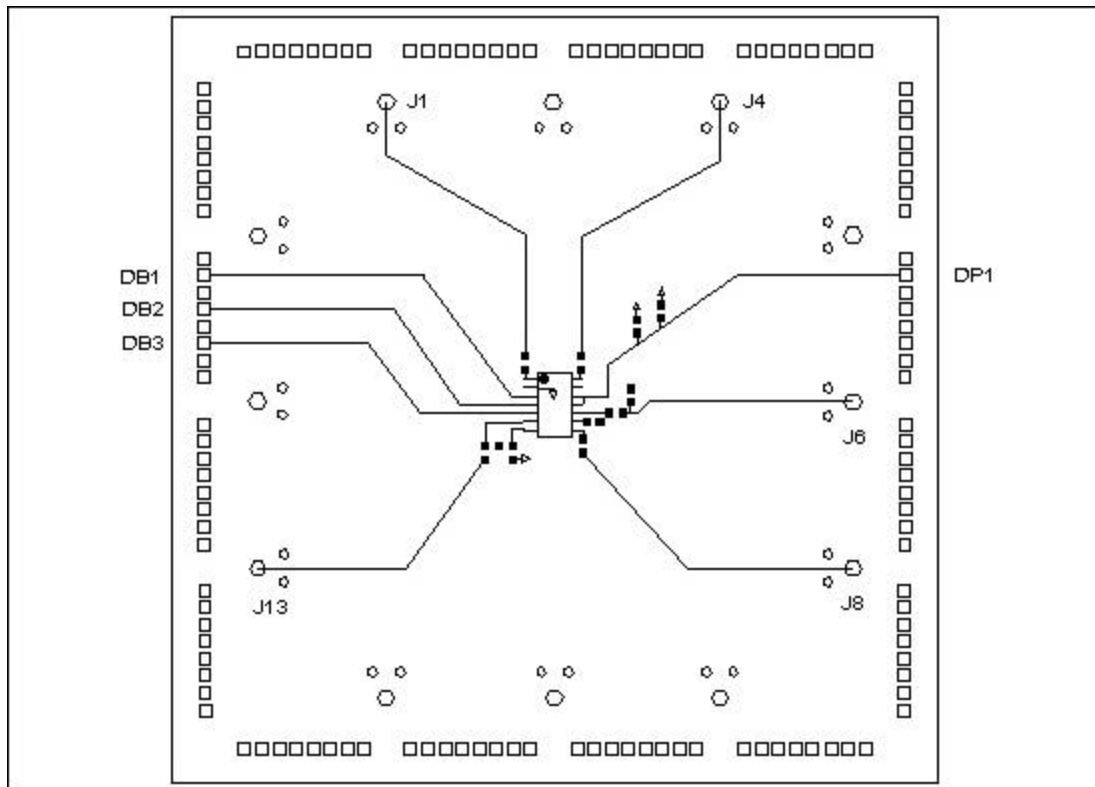

Figure 2
An example of a completed **DIB Schematic** is shown below in Figure 2.
2. Associate with each pogo pin position on the DIB Schematic a specific test head resource as found on the **Fixture Carrier Board Template**. As this is done, write them down on the DIB Schematic as shown in **Figure 2**.
4. The **J** numbers are associated with an **RF** interface at the top of the fixture. These numbers need to be associated with specific RF ports found on the **Test Head** itself. An RF switch needs to be added to the fixture any time a specific **Test Head RF Port** shows up more than once on the diagram. In the example in **Figure 2**, **RF Test Head Port 3** shows up twice requiring a **RF switch** between these two points and the test head. **Figure 3** represents the finished **Fixture Schematic**.
- Figure 2 : RF Default Conditions